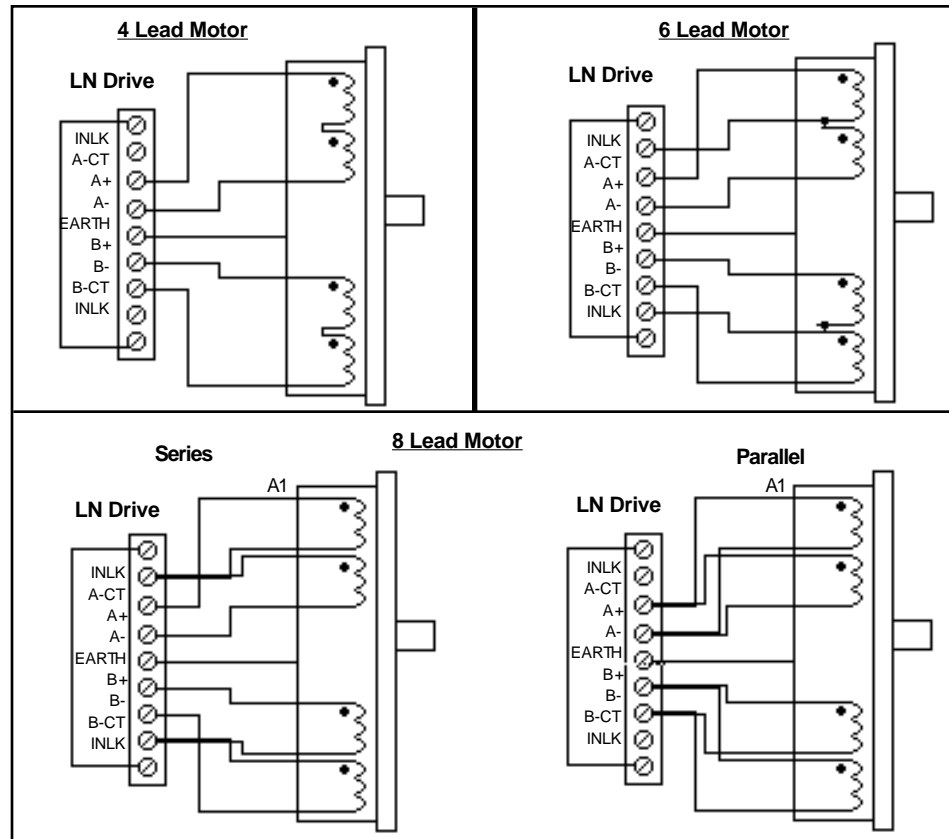

Figure 3-3. 9-Pin Motor Connector (Non-Compumotor Motors)
- ⑦ Repeat the procedure as outlined in step 6 for the three leads labeled **B** (**B-CT** is the center tap lead for Phase B of the motor).
- ⑧ Connect your 9-pin motor connector (**A-CT** motor lead) to the **A-CT** pin on the **motor** connector. Connect the **B-CT** motor lead to the **B-CT** pin on the **motor** connector.
- ⑨ Proceed to the *Terminal Connections* section below.
**8-Lead Motor** Because of the complexity involved in phasing an 8-lead motor, you must refer to the manufacturer's motor specification document. You can configure the 8-lead motor in parallel or series. Using the manufacturer's specifications, label the motor leads as shown in Figure 3-3.
- ① Connect motor leads labeled A1 and A3 together and relabel **A+**.
- ② Connect motor leads labeled A2 and A4 together and relabel **A-**.
- ③ Connect motor leads labeled B1 and B3 together and relabel **B+**.
- ④ Connect motor leads labeled B2 and B4 together and relabel **B-**.
- ② Relabel the A1 lead to **A+**.
- ③ Relabel the A4 lead to **A-**.
- ④ Connect the motor leads labeled B2 and B3 together and cover this connection with electrical tape or shrink tubing. Make sure these leads are not connected to the LN Drive.
- ⑤ Relabel the B1 lead to **B+**.
- ⑥ Relabel the B4 lead to **B-**.
- ⑦ Proceed to the *Terminal Connections* section below.
**Terminal Connections** After you determine the motor's wiring configuration, connect the motor leads to the 9-pin motor connector according to Figure 3-3.